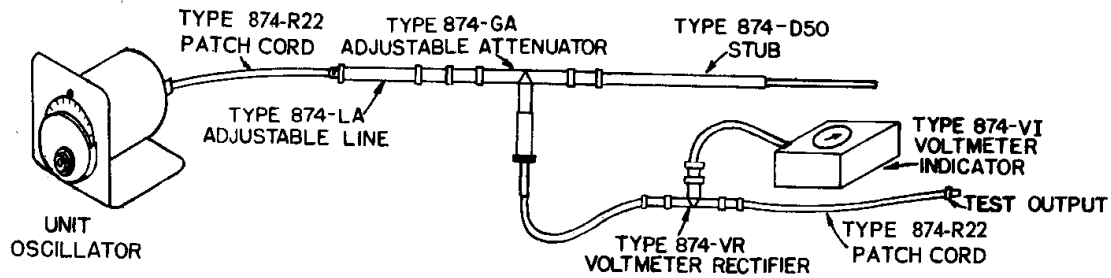

Figure 2.
3.2 UNIT OSCILLATOR AS SIGNAL GENERATOR FOR RECEIVER TESTING. The Type 1208-B, as a well-shielded power source, can be used as a signal generator to test receivers if means are available to measure and attenuate the output. The Type 874-VR Voltmeter Rectifier, Type 874-VI Voltmeter Indicator, and Type 874-GA Adjustable Attenuator are suitable for this purpose, and should be connected to the Unit Oscillator as shown in Figure 2. Also, a Type 874-D50 Adjustable Stub is required at the higher frequencies (from 300 Mc up) to produce a current maximum at that point of the attenuator where the adjustable output loop is coupled. At lower frequencies a Type 874-WN Short-Cir-